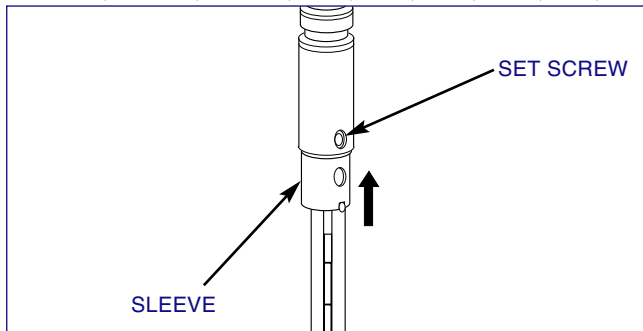

FIGURE 3-6, Install Mandrel
7. Insert mandrel into Adapter (*see Figure 3-6*).